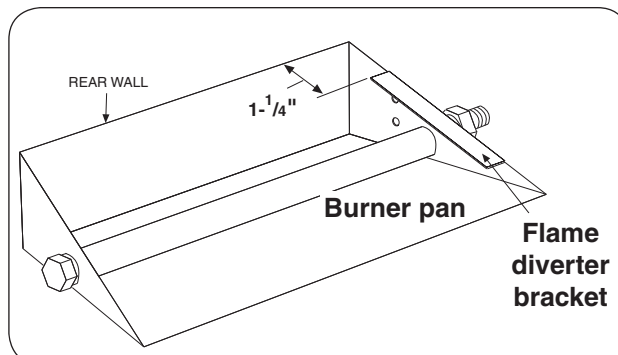

Fig. 8-1 Install diverter bracket (if applicable)
1. Place the flame diverter bracket over the side edge of the burner pan, near the location the safety control system pilot bracket will be attached. It should be placed **approximately 1-1/4"** from the rear wall of the burner pan (see Fig. 8-1).